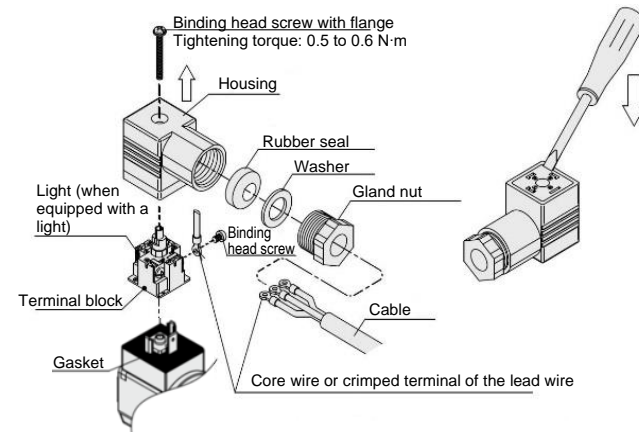

Figure 7. DIN connector construction
- Tighten screws and fittings according to Figure 7.